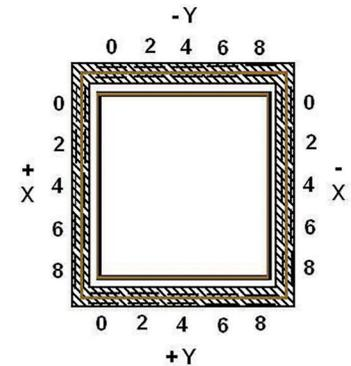

Figure 3: Cal Job
- STEP 5:** Inspect the calibration job and make any necessary adjustments according to steps 5a through 5g below. Also refer to the illustration in Figure 3.